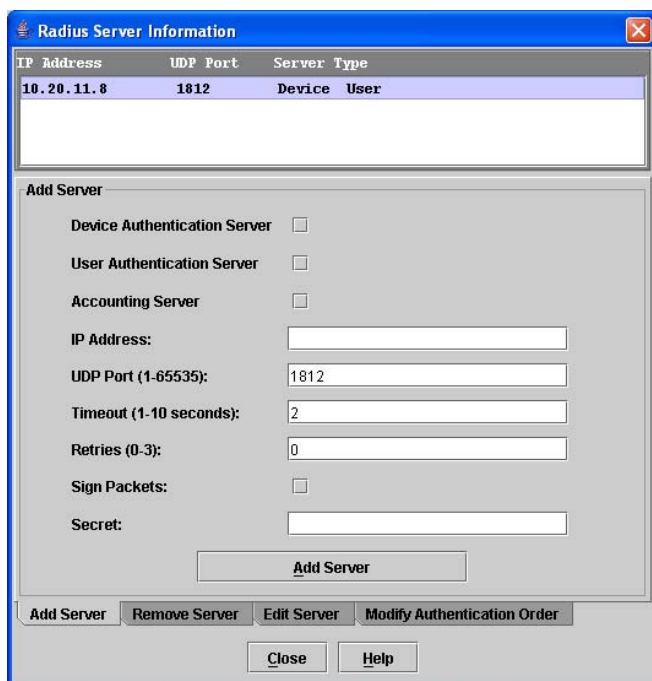

Figure 10 RADIUS Server Information dialog — Add Server tab page
2. Click the **Add Server** tab in the Radius Server Information dialog shown in Figure 10.